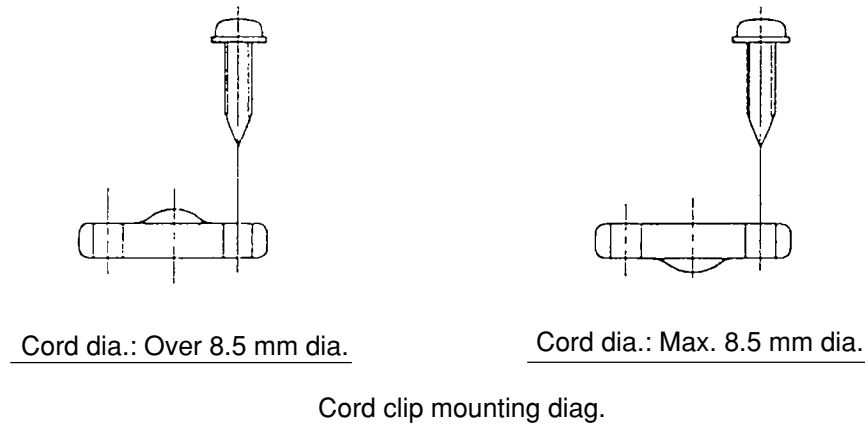

Fig. 15
(6) Mount the cord clip as shown in Fig. 15 being careful of the direction.